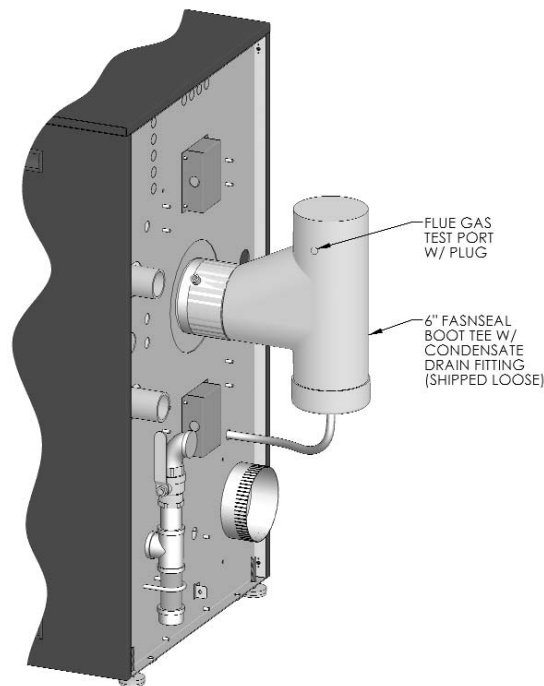

Figure 3.10
1. Figure 3.10 shows the exhaust connection on the rear of the boiler on the vertical centerline. The exhaust connection is a 6" FasNSeal stainless steel connection.
4. The Air Intake connection should be secured with (3) screws and sealed.
1. Figure 3.10 shows an illustration of the plugged sample port on the outlet of the drain tee for the PF-850 and PF-1000 boiler.